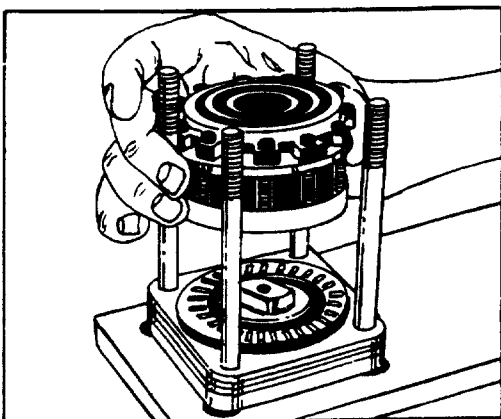

FIGURE 21.
25. The "metering package" components are held together with eleven hex. socket head screws. Lift the metering package from the assembly, and place it on a clean surface. See figure 21.